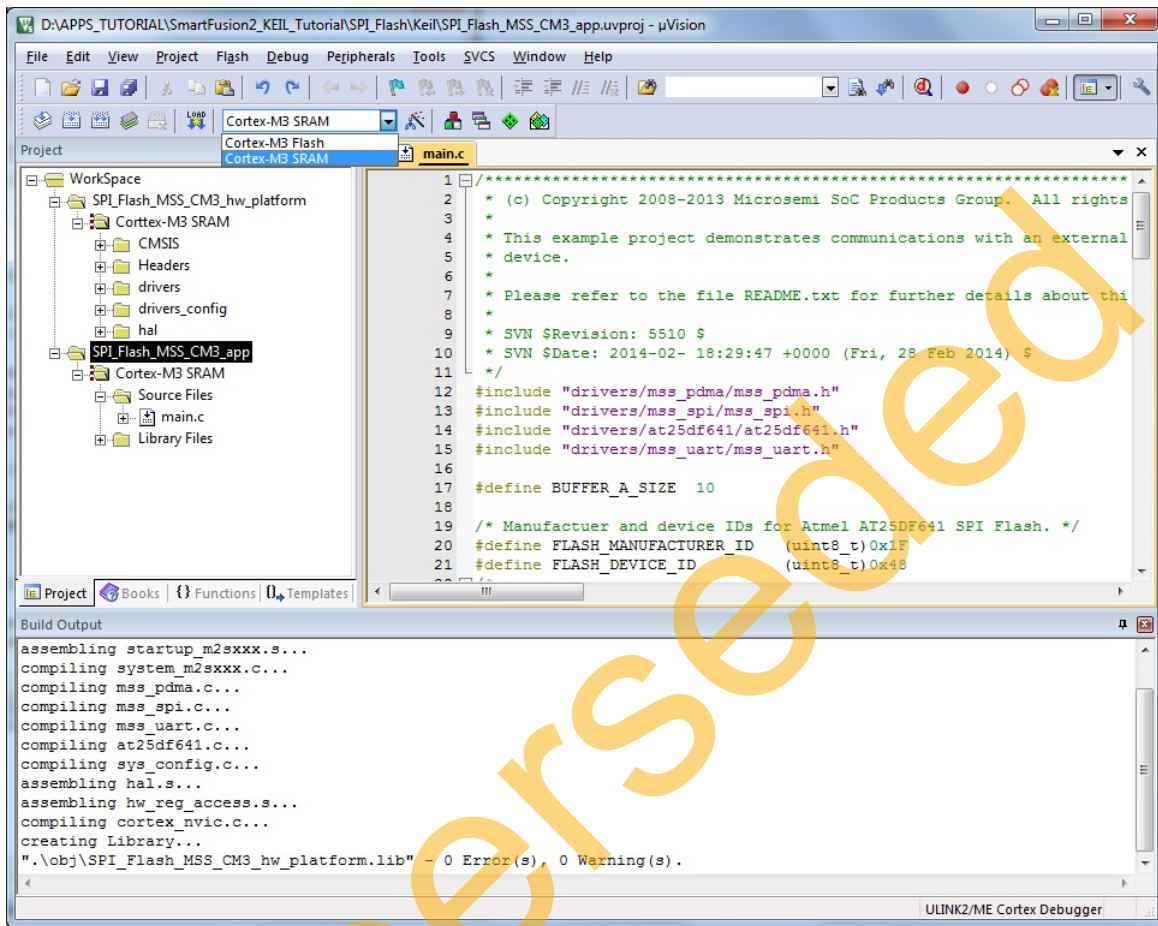

Figure 28 • Cortex-M3_SRAM Settings
10. Change **SPI_Flash_MSS_CM3_app** debug mode to **Cortex-M3_SRAM** by selecting **Cortex-M3_SRAM** from the drop-down menu as shown in Figure 28.